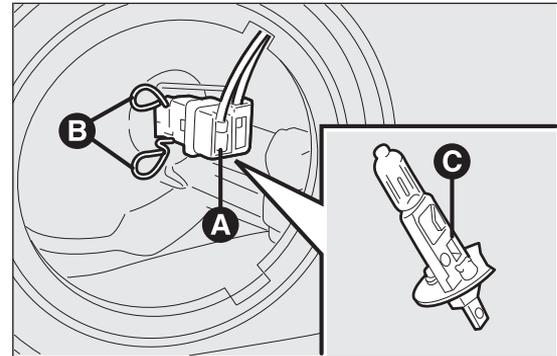

fig. 191
- disconnect electrical connector A fig. 191; release bulb holder catch B;